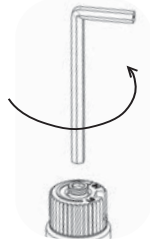

Fig.2
- 17) Insert a 5/32" or 4mm Allen wrench into the hexagonal key-way of the screw (Fig. 2), rotate it counter-clockwise until it is free and extract it.